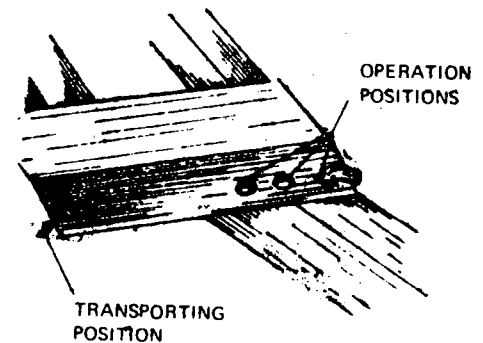

Fig. 2
b) Adjust the working position by hitching the drawbar of the machine to the appropriate point (Fig. 2).